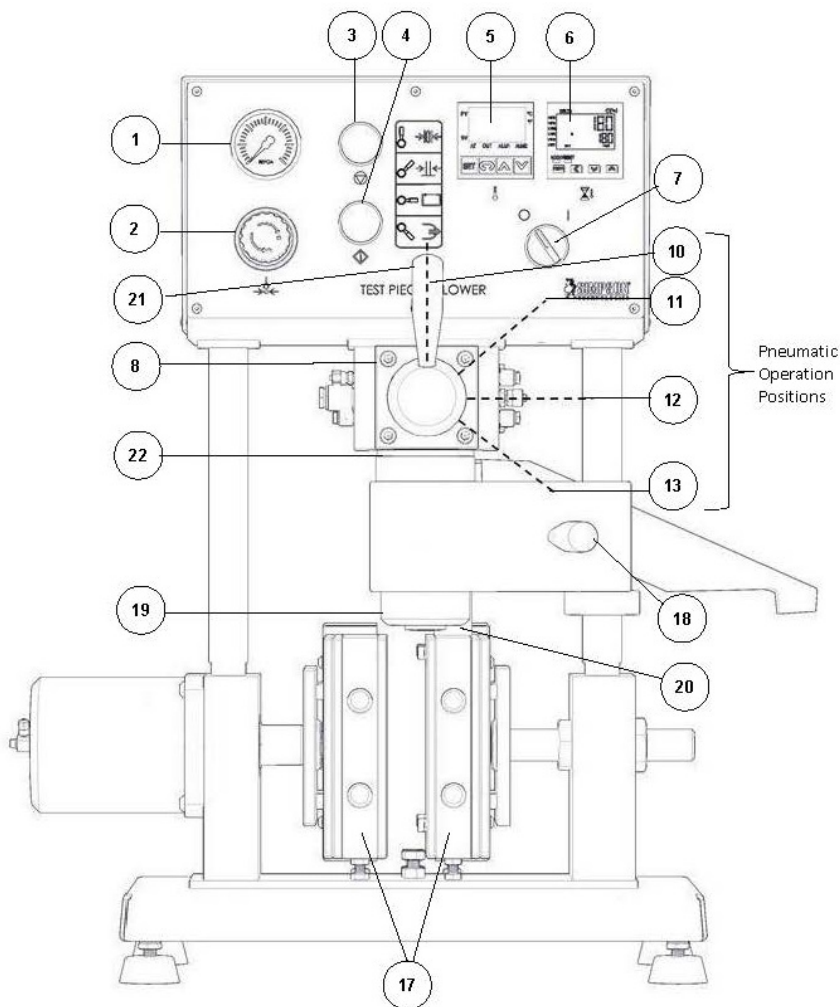
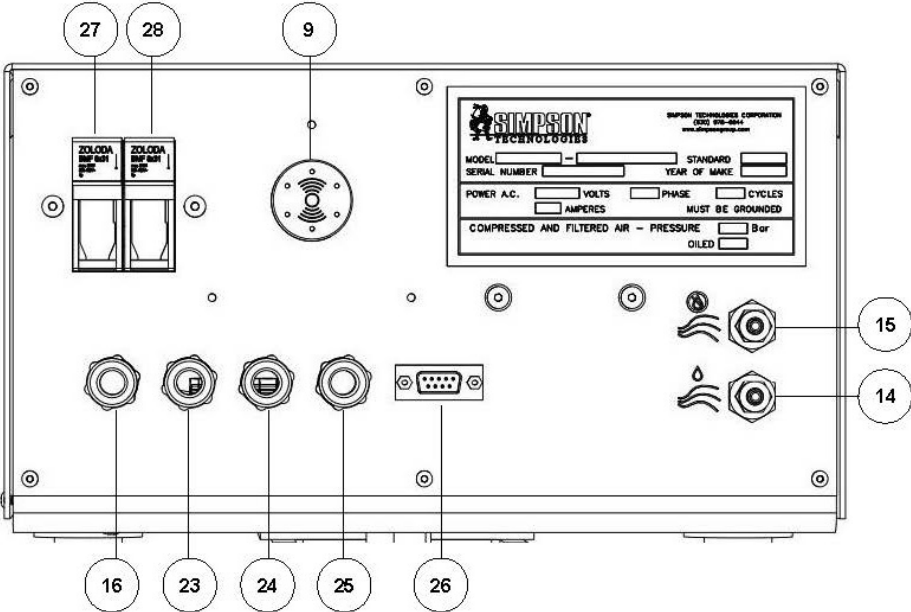

Figure 3: Front View – Test Pieces Blower
Figure 4: Rear View - Test Pieces Blower
1. Verify the voltage on the specification plate located on the back of the Test Pieces Blower. Connect the power cable supplied with the blower into the power plug receptacle located on the back of the Test Pieces Blower (Item 16, Figure 4).
- The upper right (Item 15, Figure 4) inlet is for the blowing air, which must be filtered and free of lubricant oil.
- The lower right (Item 14, Figure 4) inlet is for the actuating air, which must be filtered and lubricated.
1. Switch the power on using the power switch (Item 7, Figure 3).
2. Open the airline valve to allow air to flow to the air regulator and Blower. Determine the blowing pressure and set the blowing pressure air regulator valve (item 2, figure 3) by turning the knob left or right while observing the air pressure gauge (item 1, figure 3). The air regulator has a locking knob. Pull the knob out to unlock or push in to lock
3. Set the desired temperature on the temperature regulator (Item 5, Figure 3) Temperature setting instructions can be found in section 10.2, ½ hour to 1 hour is necessary for the temperature to reach and stabilize at the set temperature set on the temperature controller.
1. Place the selected tooling accessory that has been treated with a releasing agent between the heating plates. Placement against the right plate with the bottom of the tooling resting on the position bolts is best. Then close the left plate onto the tooling accessory by setting the pneumatic operation selector lever (Item 21, Figure 3) from the plate open position (Item 10, Figure 3) to the Plate closed position (Item 11, Figure 3).
2. Set the desired dwell time (heat time) with the timer (Item 6, Figure 3). Refer to timer operation section 10 for adjustment procedure.
3. Rotate the cartridge arm (Item 18, Figure 3) so access to remove the sand cartridge can be made. The heat deflector plate will be just above the heating plates when moved. Remove the sand cartridge (Item 19, figure 3) from the cartridge arm (Item 18, Figure 3).
Do not leave sand cartridge (Item 19, Figure 3) over heating plates when not blowing specimens. The heat from plates will cure the sand in the cartridge blowing hole, plugging it up.
2. Replace the cartridge into the cartridge arm (Item 18, Figure 3).
3. Rotate the cartridge arm into position so the cartridge aligns over the top of the tooling accessory and stops (Item 20, Figure 3).
4. Move the pneumatic operation lever (item 21, Figure 3) to the position that will lower the blower piston (item 12, Figure 3) onto the blowing cartridge.
5. Move the pneumatic operation lever (item 21, Figure 3) to the blowing position (Item 13, Figure 3) and wait 3-5 seconds until the tooling is filled with sand. Then return the pneumatic operation lever (item 21, Figure 3) to the blower piston clamping position (item 12, Figure 3) and then to the Heating Plate close position (Item 4, Figure 3).
6. Push the start button (Item 4, figure 3), observe that the timer has started, and then move the cartridge arm (Item 18, figure 3) out and away from the tooling to the loading position.
7. Once the timer has counted down the set time the alarm will sound (Item 9, figure 4). Press the stop button (Item 3, Figure 3).
Do not leave the cartridge arm (Item 19, Figure 3) in the position that will lower the blower piston (Item 12, Figure 3) onto the blower cartridge. This will cause the sand residue in the cartridge to harden and obstructing the orifice.
1. While holding the handle of the tooling with the left hand, rotate the pneumatic operation lever (item 21, Figure 3) to the plate release position, or start position, (Item 10, Figure3). Failure to hold the tooling handle may result in the tooling dropping out of position and damaging the sample and tooling.
7.1 Legend – Figure 3 and Figure 4